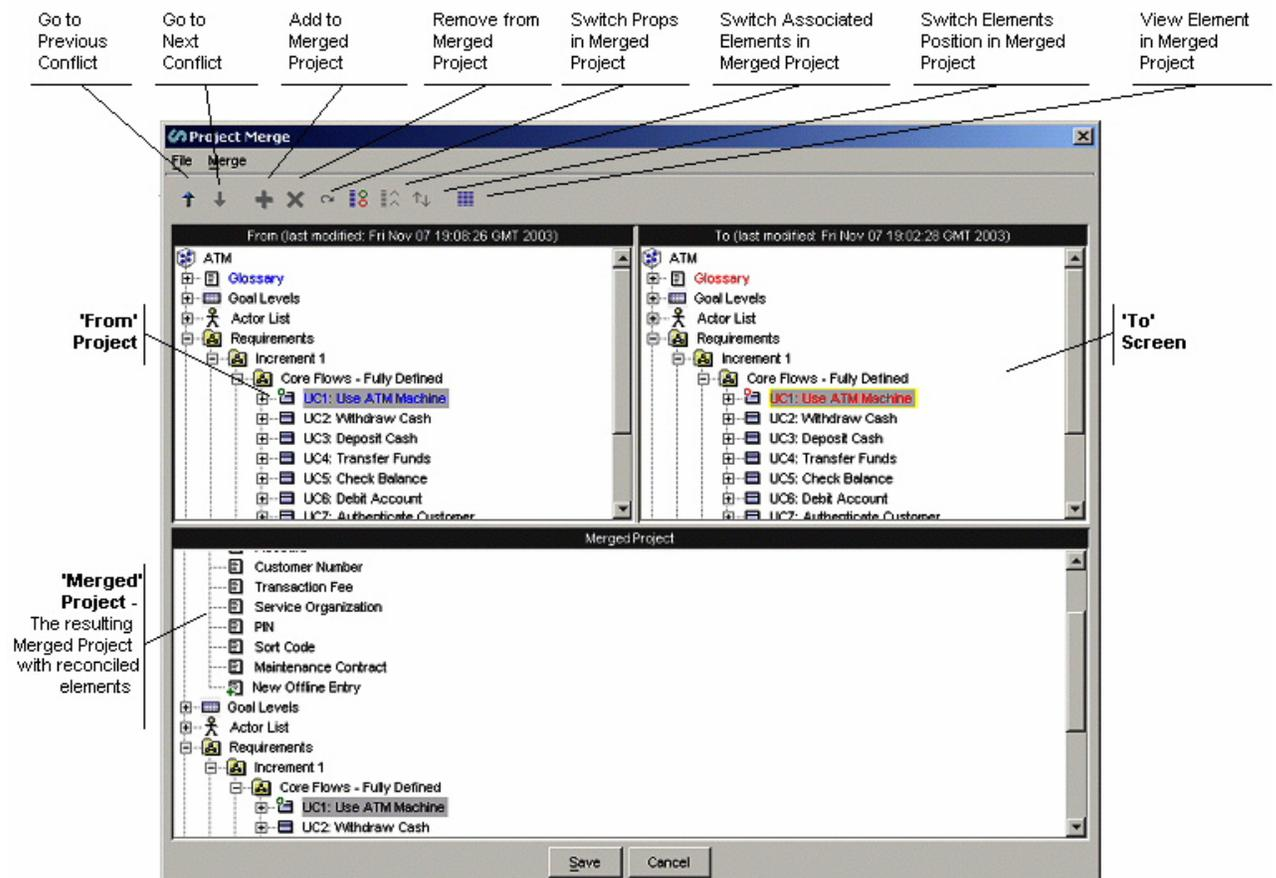

Figure 80 - The Project Merge screen showing general layout
The Merge Screen shown in Figure 80 shows all conflicts (differences) graphically so that you can decide how to resolve them on a one-to-one basis. When the Optimal Trace™ Enterprise Merge Screen initially shows, for every conflict detected, it accepts for inclusion in the Merged Project the most recently changed element.
- Click on the Save button on the Project Merge screen (Figure 80) and the two Projects with the result reflected as the 'Merged Project'.